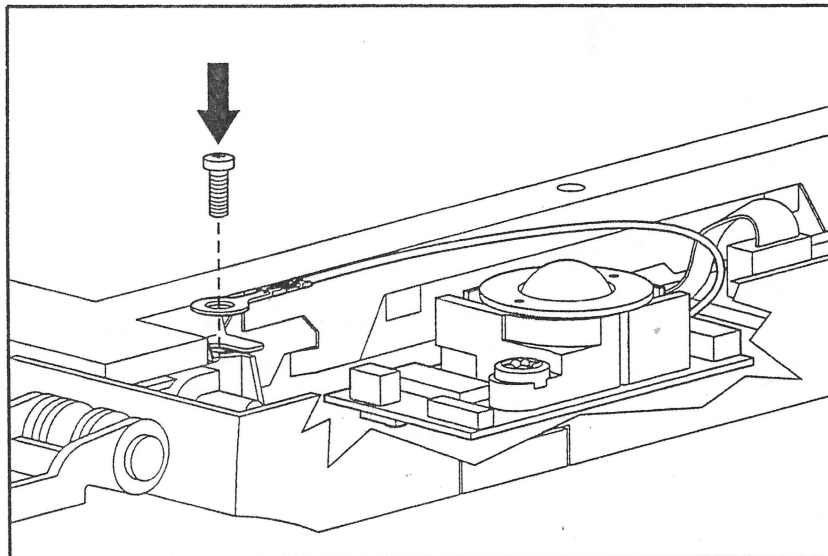

Figure 2-20. Replacing the Terminal Lug
**NOTE:** When replacing the LCD panel, be sure to insert the terminal lug before you connect the ground cable (attached to the trackball) to the LCD panel (Figure 2-20).